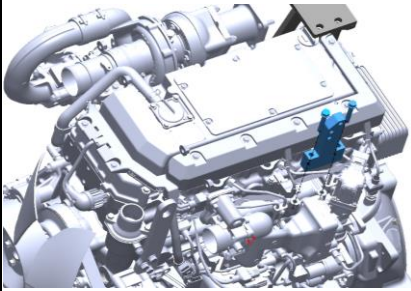

Figure 4
3. Install the ATD mount bracket support (9) on the intake flywheel side using M10X60 (23) bolts as shown in the figure 4.